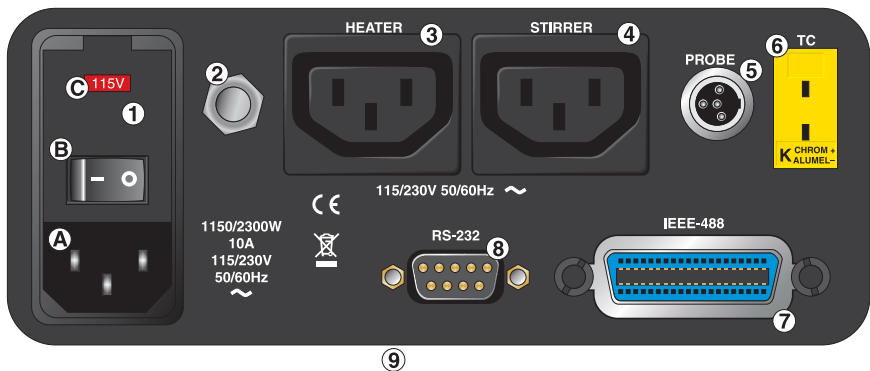

Figure 2 Back panel features
The following features are found on the rear panel of the controller: (1) power entry module, (2) the solid state relay, (3) the heater power connector, (4) the stirrer power connector, (5) the control probe input connector, (6) the cut-out thermocouple connector, (7) the optional IEEE-488 (GPIB) interface connector, (8) the RS-232 interface connector, and (9) the serial number label. (see Figure 2)
(1) The power entry module includes: (A) the IEC power line connector, (B) the ON/OFF switch, (C) the voltage selector with indicator window and two fuses. The unit is shipped from the factory with 10 A 250 V F fuses. Additional information on fuse usage is in Section 1.3, 3 and Section 5.6.
(C) The power entry module is provided with a dual voltage selector integrated into the fuse holder. The controller has been specially designed to allow either 115 or 230 VAC operation. The voltage indicator window notifies the user of the voltage selected. See Figure 2.